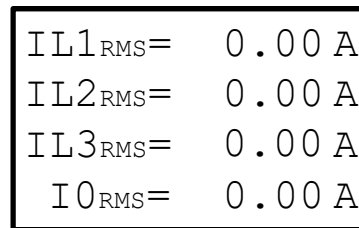

Figure 5.20 Measurements menu
- After 5 s display changes to Measurements menu (Figure 5.20).